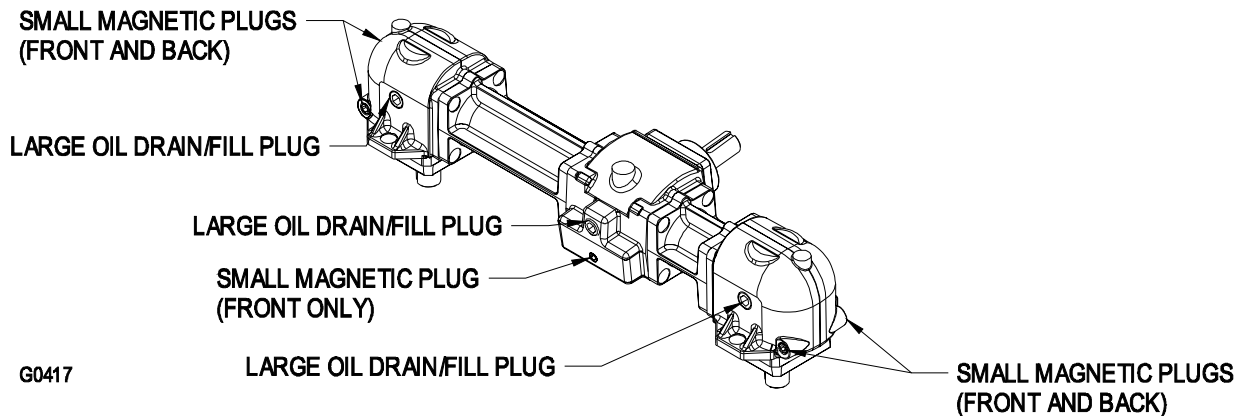

FIGURE 7
- Remove the large oil drain plug on the front of each of the 3 gearbox sections and drain oil. See Figure 7.
- Remove small magnetic plugs and wipe away any material accumulated on the plugs. See Figure 7.